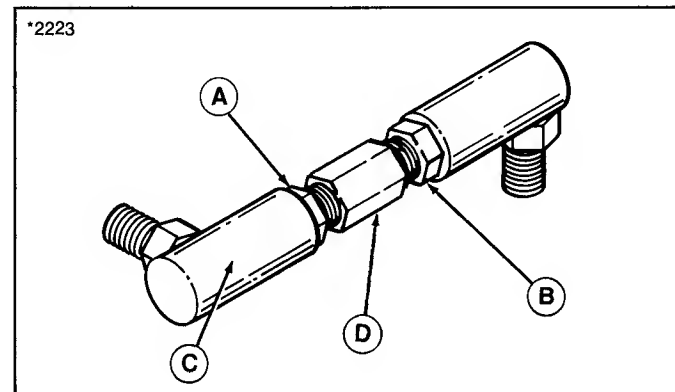

Figure 33.
8. Return the quadrant to the center position, if moved. Loosen the front nut (A, figure 33) and rear nut (B) on the hydro shift rod (C). The rear nut is a left-hand thread.